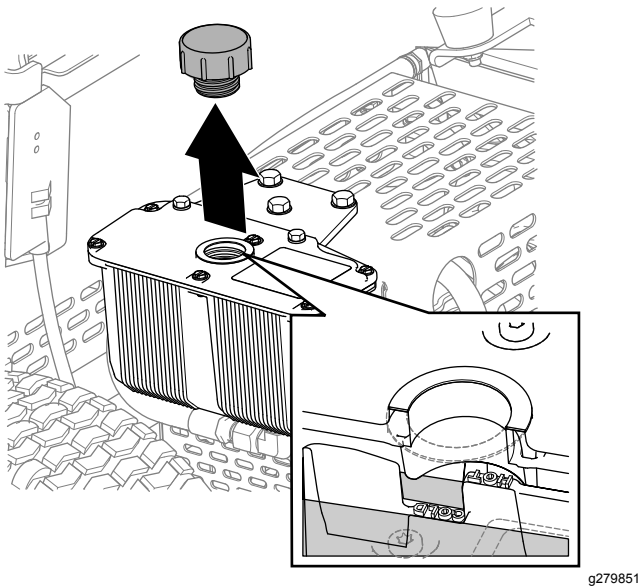

Figure 35
3. Remove the cap and check hydraulic-fluid level in the reservoir (Figure 35).